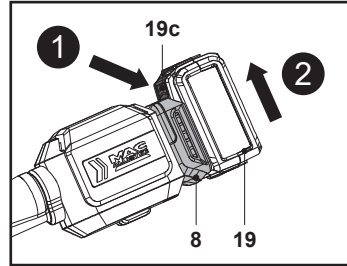

Fig. 8
2. Press the release button (19c) and remove the battery pack (19) from the battery docking port (8) (Fig. 8).